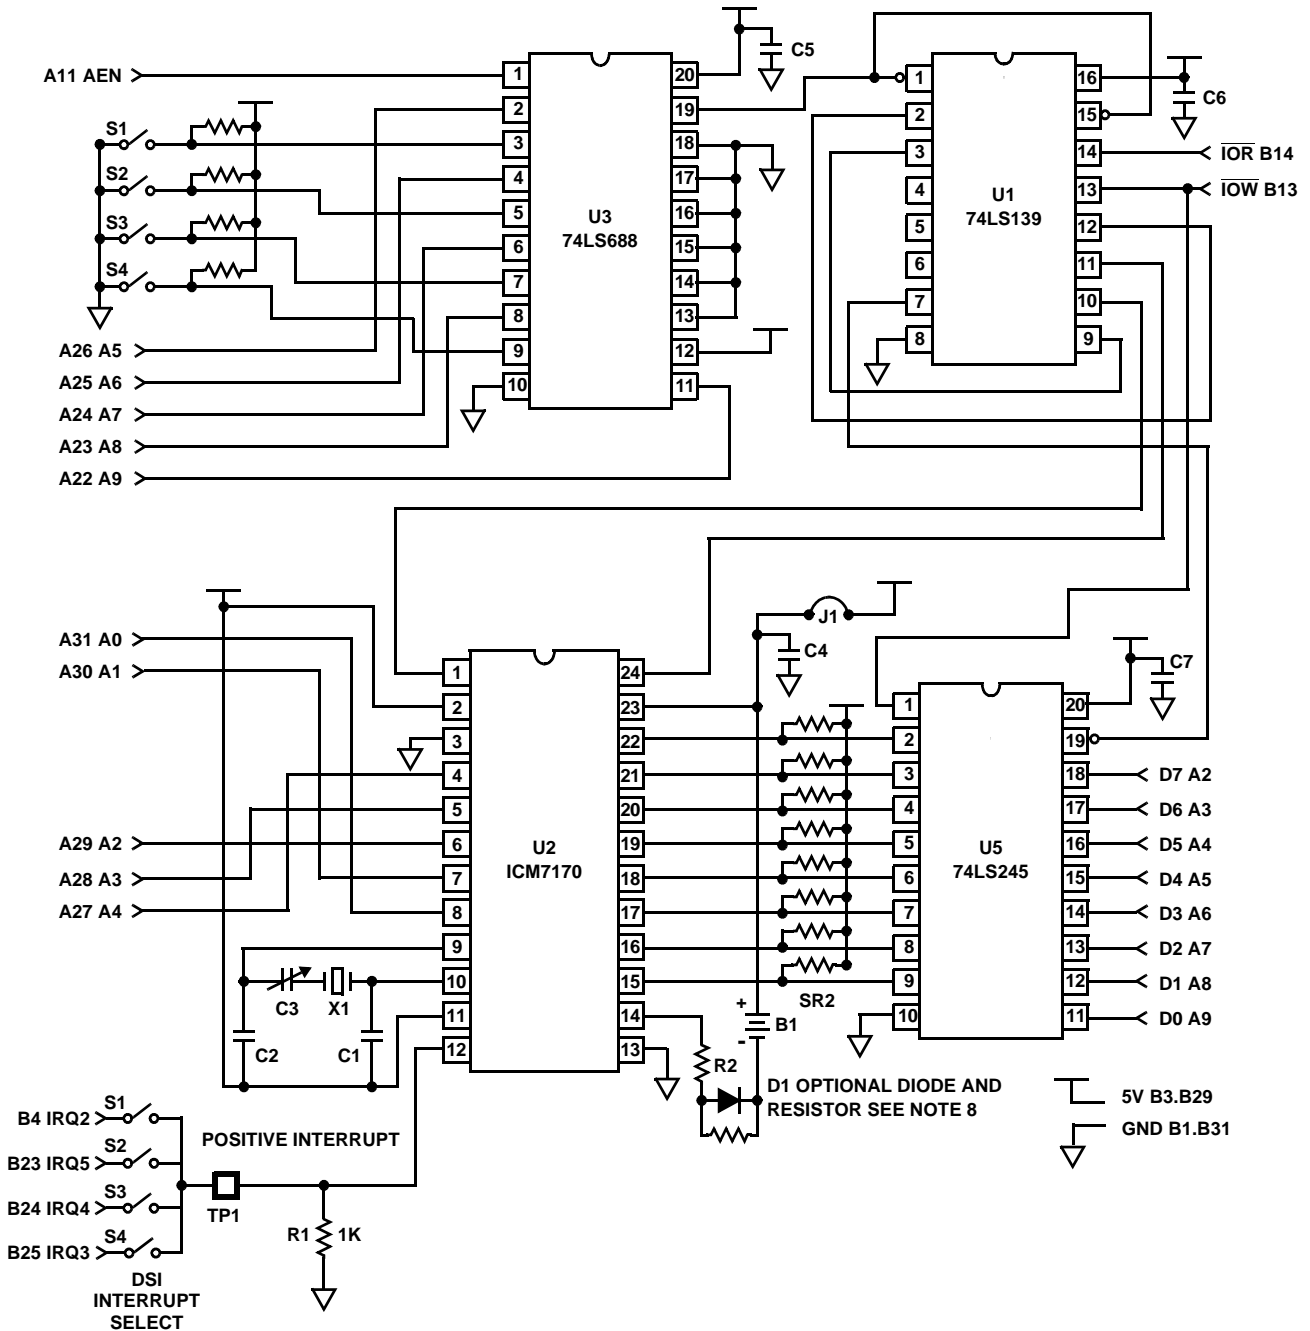

FIGURE 9. IBM PC INTERFACE FOR ICM7170Y
Figure 9 shows the schematic of a board that has been designed to plug into an IBM PC/XT (Note 1) or compatible computer. In this example  $\overline{CS}$  is permanently tied low and access to the chip is controlled by the  $\overline{RD}$  and  $\overline{WR}$  pins. These signals are generated by U1, which gates the IBM's  $\overline{IOR}$  and  $\overline{IOW}$  with a device select signal from U3, which is
8.  $V_{BACKUP}$  DIODE - Lithium batteries may explode if charged or if discharged at too high a rate. These conditions could occur if the battery was installed backwards or in the case of a gross component failure. A 1N914-type diode placed in series with the battery as shown in Figure 9 will prevent this from occurring. A resistor of  $2M\Omega$  or so should parallel the diode to keep the  $V_{BACKUP}$  terminal from drifting toward the  $V_{SS}$  terminal and shutting off ICM7170 I/O during normal operation.